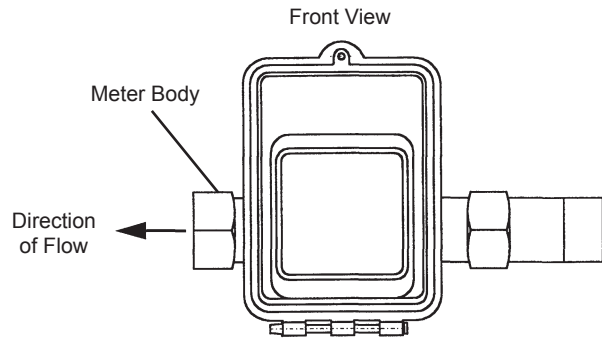
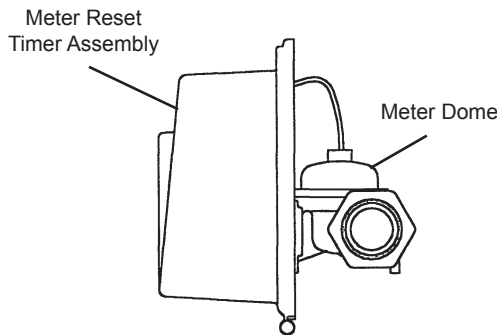

Figure 2
Figure 3
- Meter bodies must be installed the horizontal position with the reset timer assemblies in the vertical position. See Figure 2 and Figure 3.